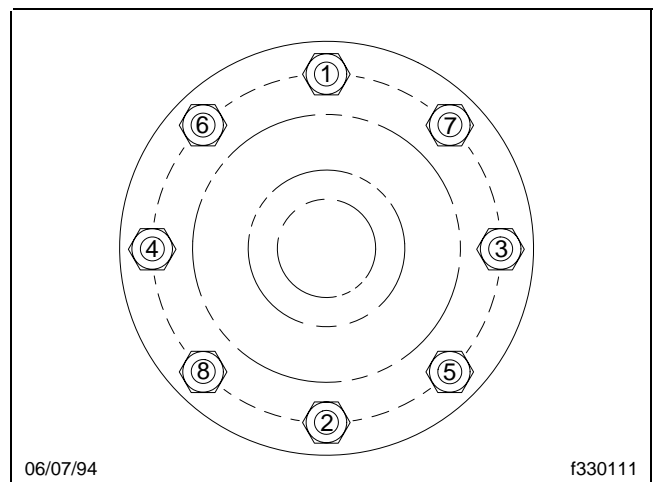

Fig. 3, Tightening Sequence, Drive Axle Stud Nuts
13. If needed, install the tapered dowels and washers on the drive axle studs. Install the drive axle stud nuts and washers. Using the sequence shown in **Fig. 3**, tighten the nuts to the torque values given in the table in **Table 3**.